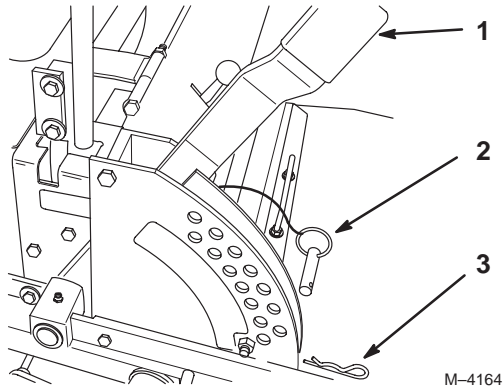

Figure 20
1. Raise the height-of-cut lever to the transport position (also the 5 inch [127 mm] cutting height position) (Fig. 20).
2. To adjust, remove the hairpin cotter and clevis pin from the height-of-cut bracket (Fig. 20).
3. Select the hole in the height-of-cut bracket corresponding to the height-of-cut desired, and insert the clevis pin (Fig. 20).
4. Secure the clevis pin with the hairpin cotter (Fig. 20).